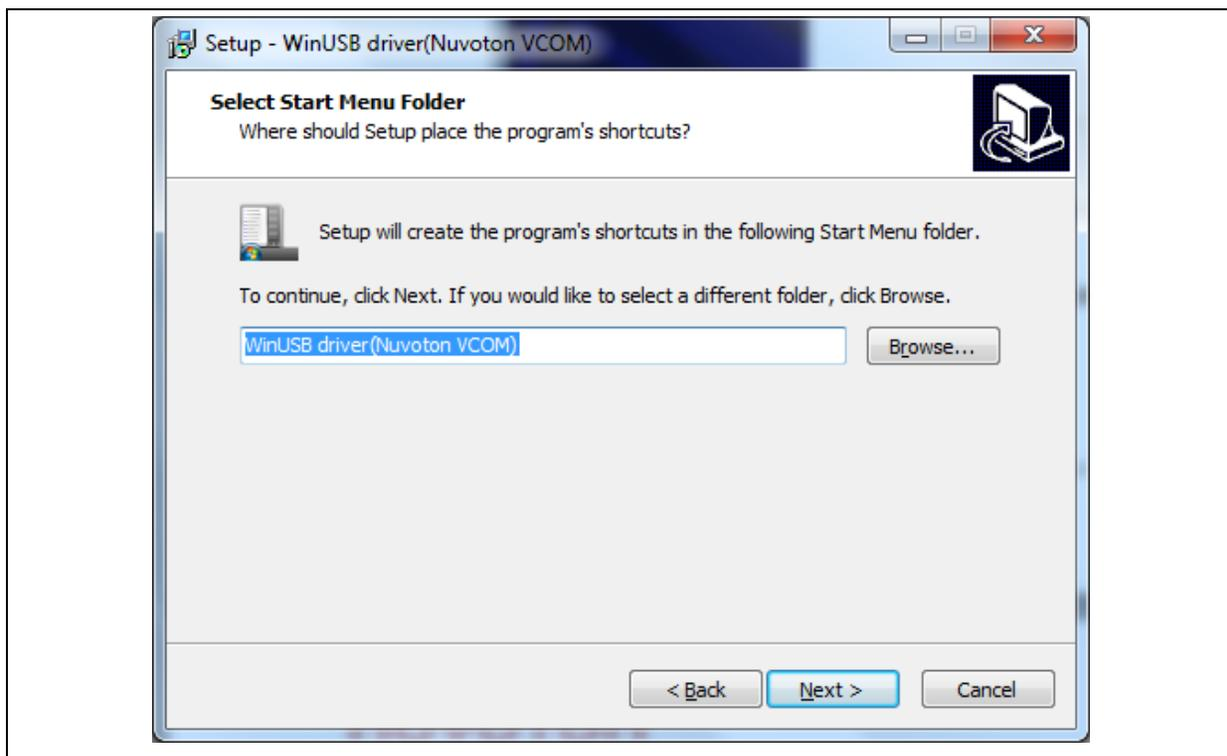

Figure 2-4 WinUSB4NuVCOM Driver Setup (4)
Step 4: Press "Next" (Figure 2-4).